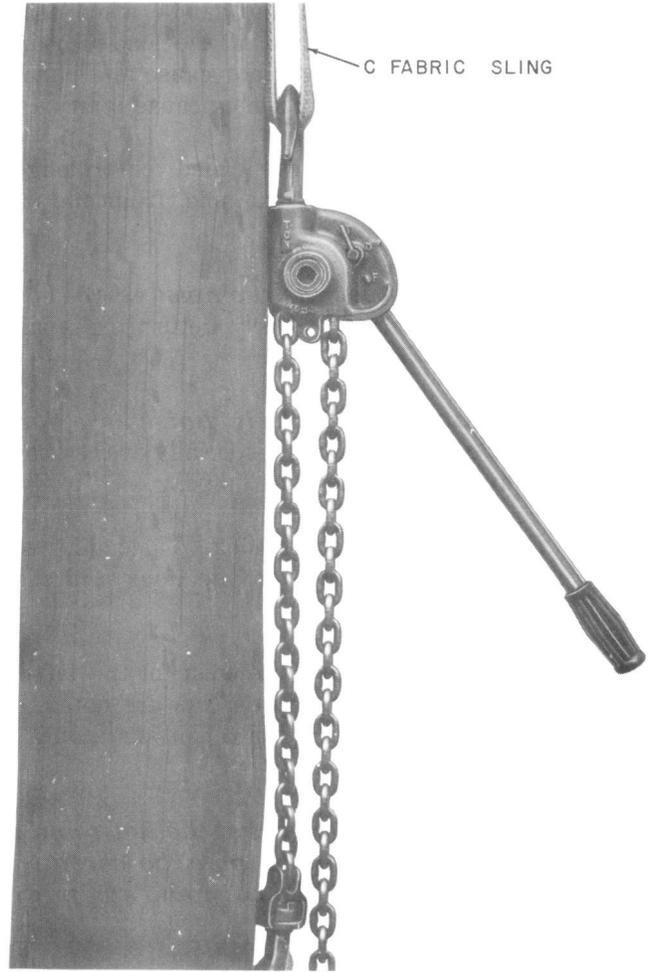

Fig. 4—Vertical Position
4.04 When using in the vertical position, install hoist as shown in Fig. 4 with the flat surface of the housing against the pole or wall.